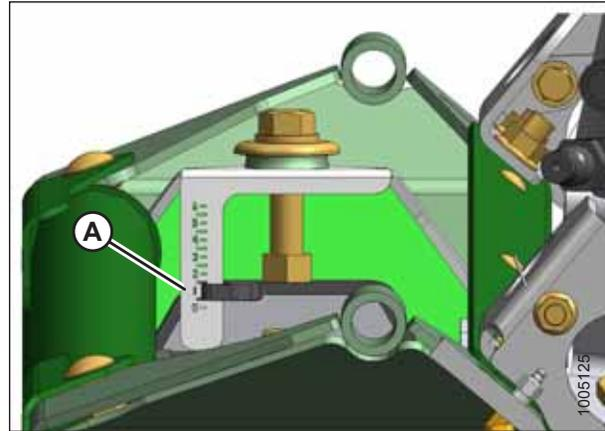

Figure 3.70: Roll Gap Gauge
- Refer to Figure 3.70, page 48: Confirm the roll gap is at the 1.5 line (A).